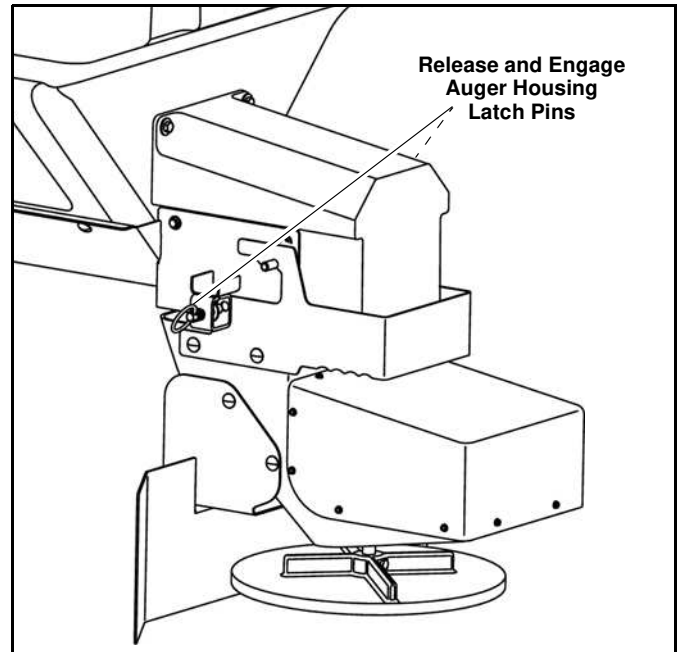

Figure 1-6
3. As the lower anchor holes align with the auger motor housing pins, pull each pin out and rotate clockwise to disengage the detent. Rotate each pin slightly as it engages the lower anchor holes on the chute spinner assembly. (See Figure 1-6).